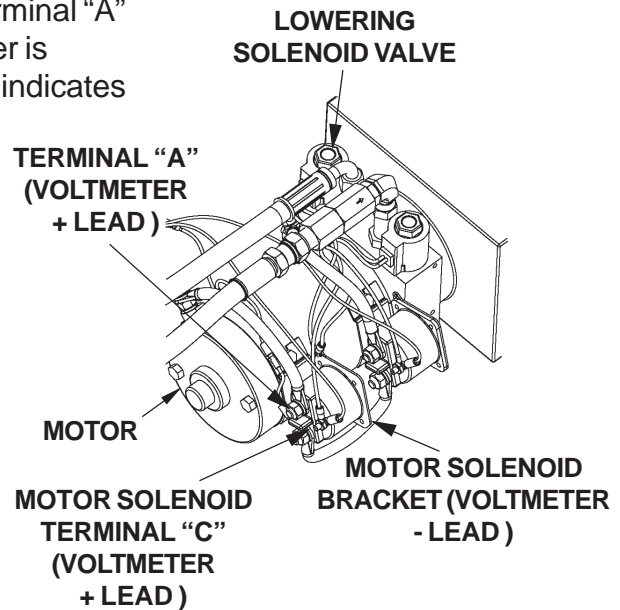

FIG. 10
1. Connect voltmeter between Motor Solenoid Terminal "A" and Bracket (**FIG. 10**) to verify that battery power is getting to "A". Recharge the battery if voltmeter indicates less than 12.6 Volts DC.
3. Check if Lowering Solenoid Valve is getting power. Connect voltmeter between Motor Solenoid Bracket and Motor Solenoid terminal "C" (**FIG. 10**). Push Control Switch to "LOWER" position to energize Lowering Solenoid. If voltmeter reads battery voltage (+12.6 Volts DC minimum), control circuit is operating correctly (replace Lowering Solenoid). If voltmeter reads 0 Volts, check if toggle switch and wiring are faulty.